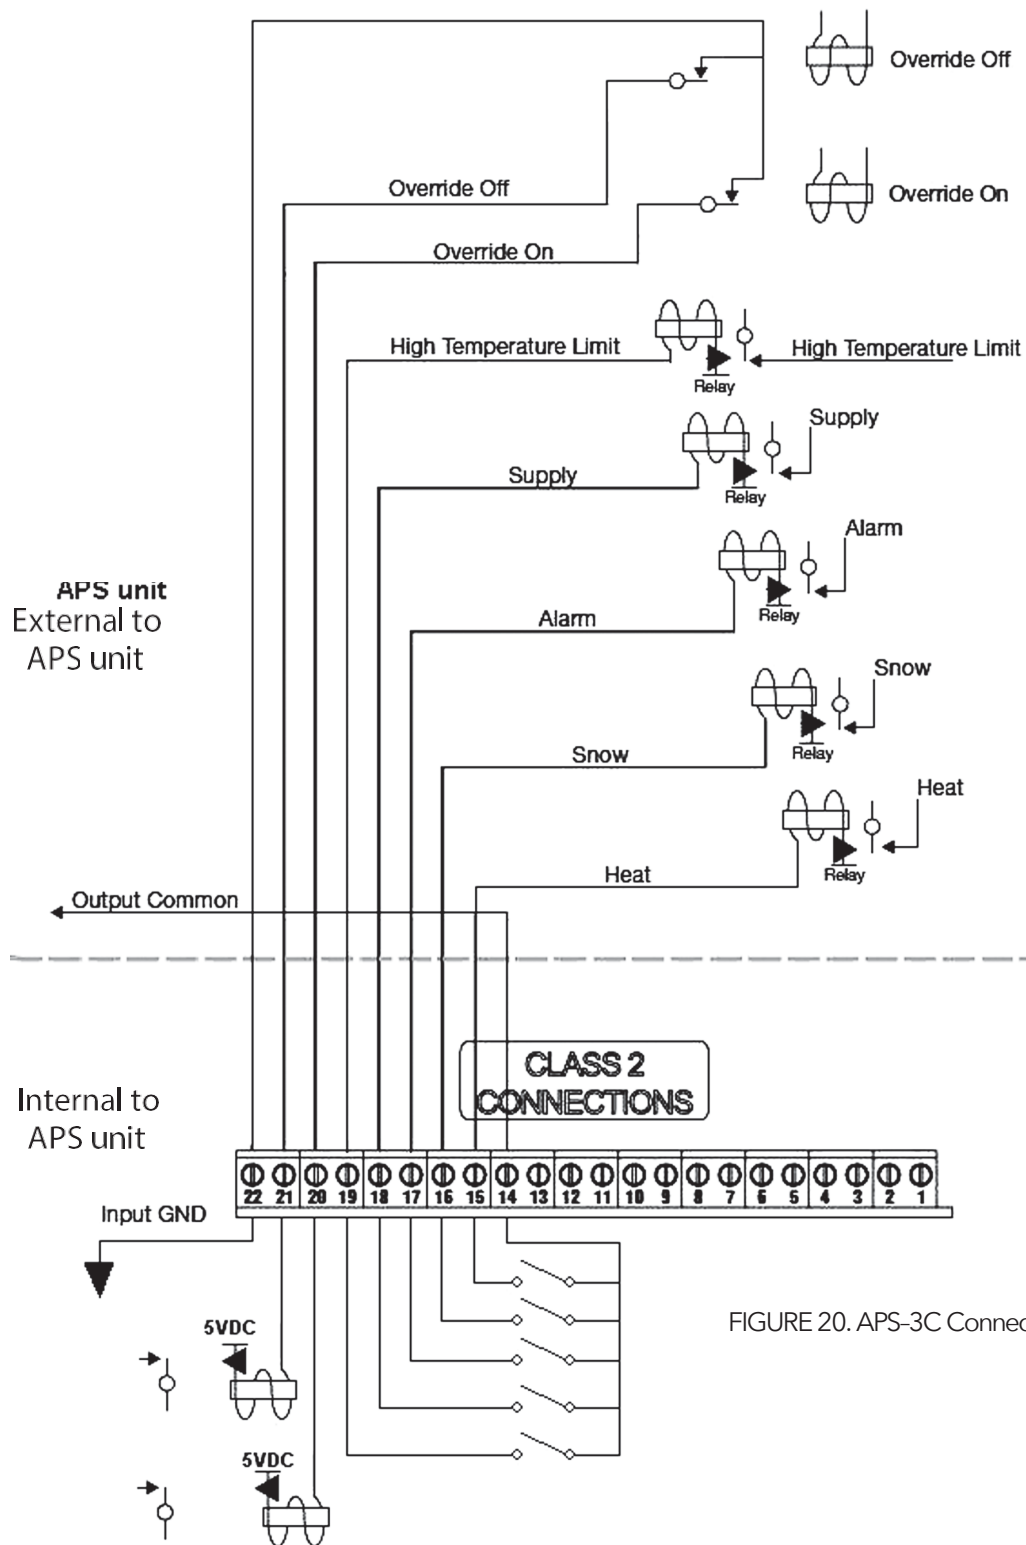

FIGURE 20. APS-3C Connections.
The EMC interface is identical on all of the APS "C" Series models. Please see the EMC section of this manual for interface details. Figure 20 pg 12.
The APS "C" Series provides an EMC interface to communicate with the EMC of building automation systems. The EMC interface provides 10 mA dry switch contacts for communicating status to the EMC or starting or stopping the system from the EMC. Refer to Figure 20 for EMC connections.
- TEMP LIMIT indicates that either the pavement temperature is above the High Temperature Limit setting and there is a call for heat, or the ambient air temperature is above the High Temperature Limit setting. An APS "C" Series Control Panel can be configured to monitor slab temperature or ambient air temperature but not both. See figure 20 pg 12.
- OVERRIDE ON can be used to override an attached APS "C" Series Control Panel in order to turn heaters on. A normal contact closure will turn on heaters until operation is cancelled. If the EMC cycles the Override On relay on and off again within more than 32 milliseconds, but less than 300 milliseconds, the attached APS "C" Series Control Panel will begin a manual Heater Cycle and run for the Hold-On Time setting. See figure 20 pg 12.